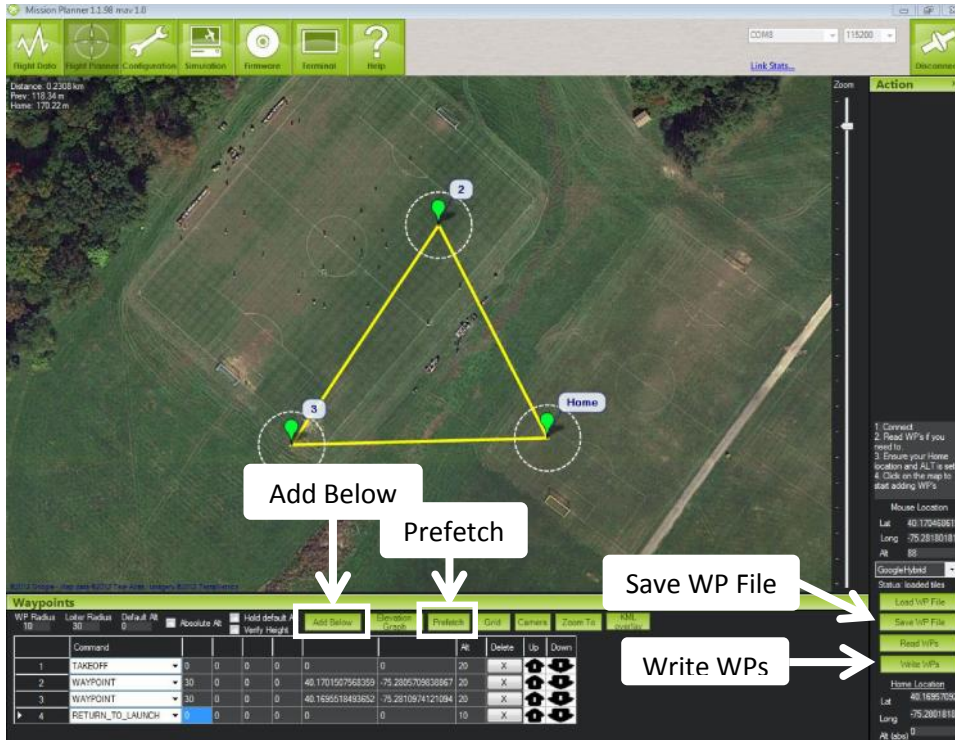

Figure 18 – Auto mode test mission
- Left clicking on the aerial photograph will add a waypoint to the quad's mission. For this autoflight, create a triangle mission like the one in Figure 18.
- Click on the Add Below button, see Figure 18. In the drop down menu select the **TAKEOFF** command and set a height. The mission in Figure 18 has a takeoff height of 20m, all altitudes are in meters.
- Click on the aerial photo twice to create waypoints 2 and 3. After the waypoints are created you can drag them to their correct positions. You must also set an altitude and radius for the waypoints. The altitude in Figure 18 is 20m and the radius is 30m.
- After the waypoints have been created, click the Add Below button. In the drop down menu select the **RETURN_TO_LAUNCH** command and set a height. The mission in Figure 18 has a takeoff height of 10m.
- Click the Add Below button again. In the drop down menu select the **LAND** command. The mission in Figure 18 does not show the **LAND** command.
- You can save a mission to your computer by clicking the Save WP File in Figure 18. If your version of the Mission Planner does not have the Save WP File button:
- Click on the Write WPs button, see Figure 18.
- Select the Prefetch button, see Figure 18. If there is no Prefetch button:
- Click on Write WPs, see Figure 18.